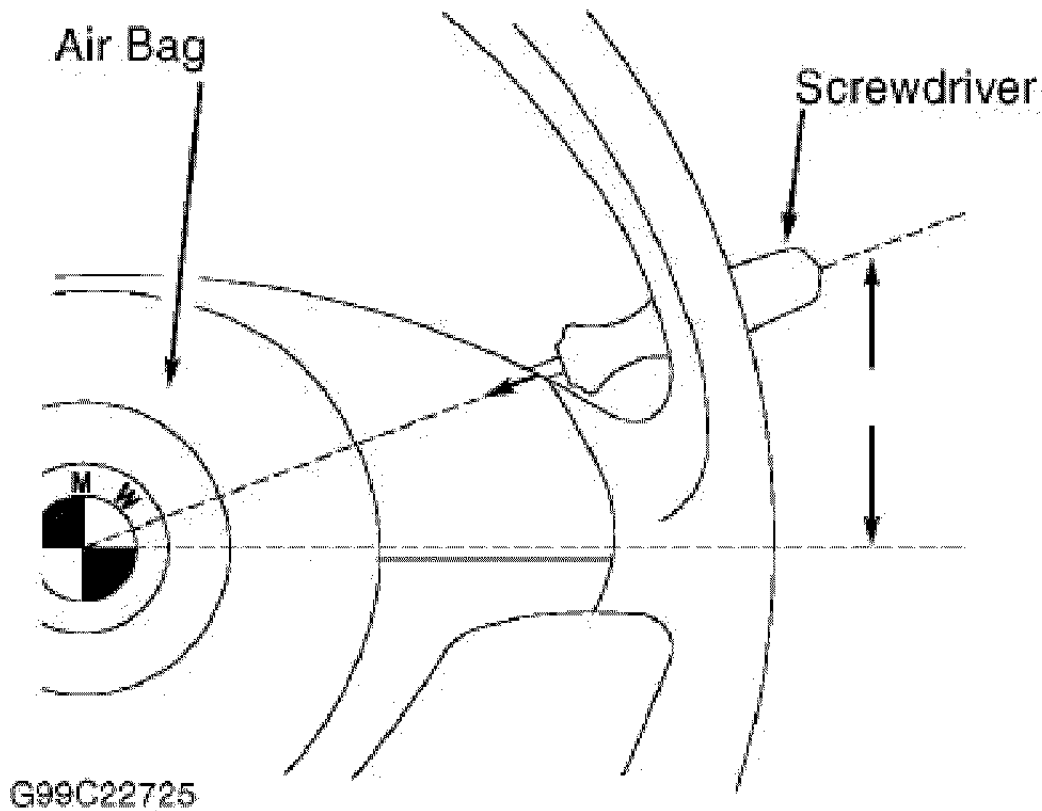

Fig. 1: Releasing Driver-side Air Bag Module
1. Before proceeding, see **AIR BAG SAFETY PRECAUTIONS** . Disable air bag system. See **DISABLING & ACTIVATING AIR BAG SYSTEM** . Insert screwdriver through opening on rear side of steering wheel. See **Fig. 1** .